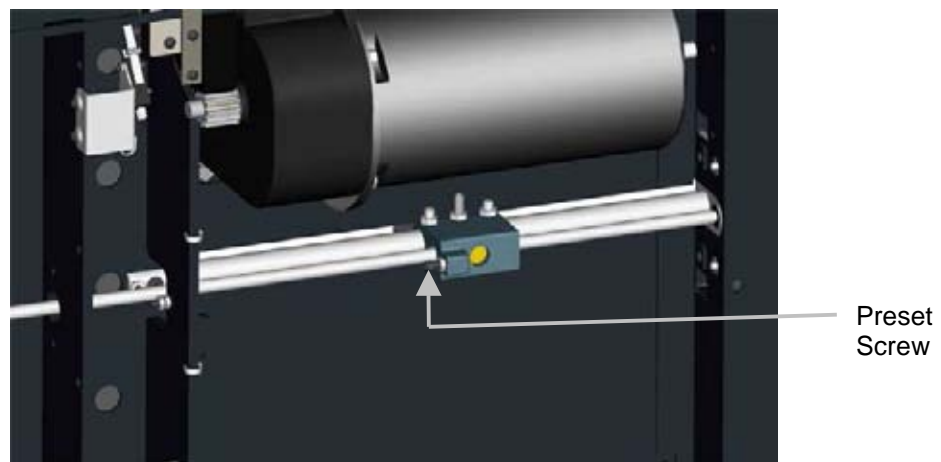

Figure 8
- The backgauge accuracy can be corrected by adjusting the preset screw attached to the bottom of the backgauge nut assembly (Figure 8).